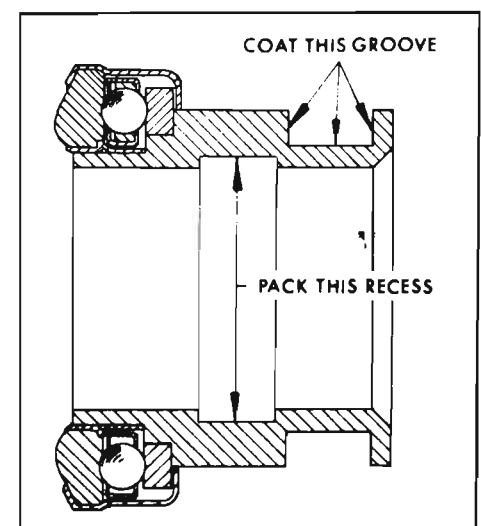

Figure 4-8—Throw-Out Bearing Lubrication
3. Fill groove in throw-out bearing with wheel bearing lubricant. See Figure 4-8. Make sure transmission front bearing retainer is clean and apply a light coat of wheel bearing lubricant. Slide throw-out bearing over transmission retainer several times. Remove throw-out bearing and wipe off all excess lubricant pushed up by hub of bearing.